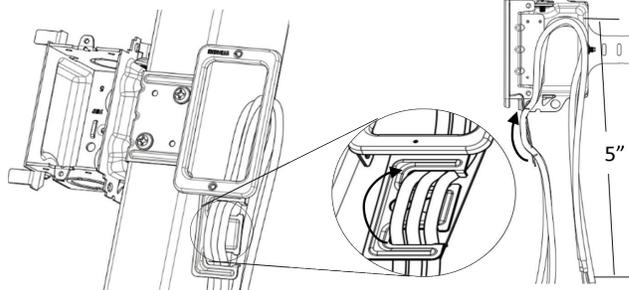

Figure 2
3. Secure the low voltage cables in the center part by threading them as shown in the Figure 2. For a good connection, leave a minimum length of 5 inches (12 cm) after the lock.